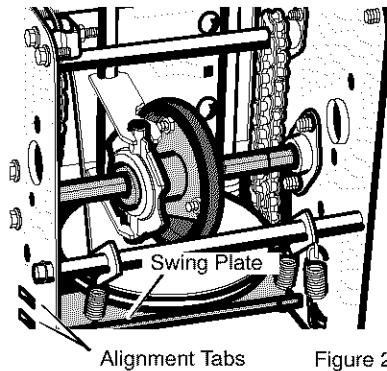

Figure 28
**plate** is properly secured (see Figure 28).